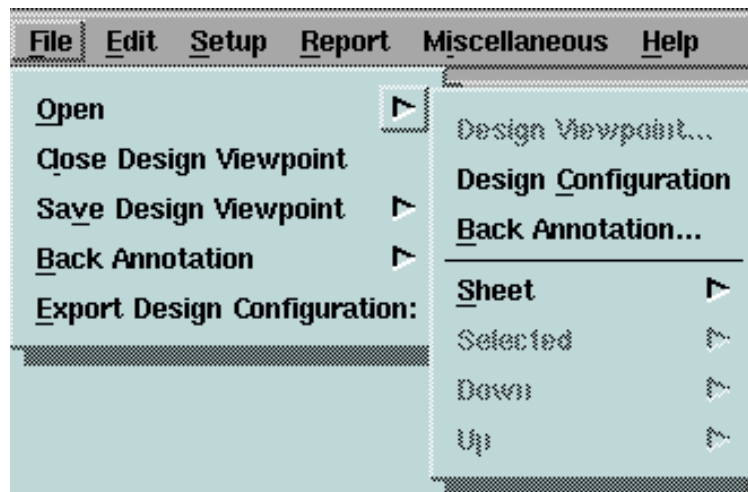

Figure 3-38. File > Open Menu
4. Choose the **File > Open > Back Annotation** pulldown menu item shown in Figure 3-38.